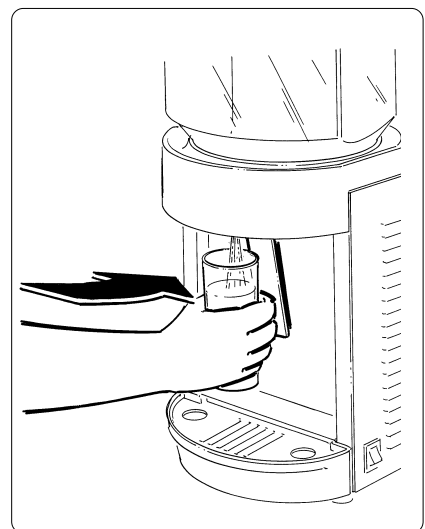

Fig. 2
- To dispense the product place a cup under the tap and press the relevant lever inward (fig. 2).